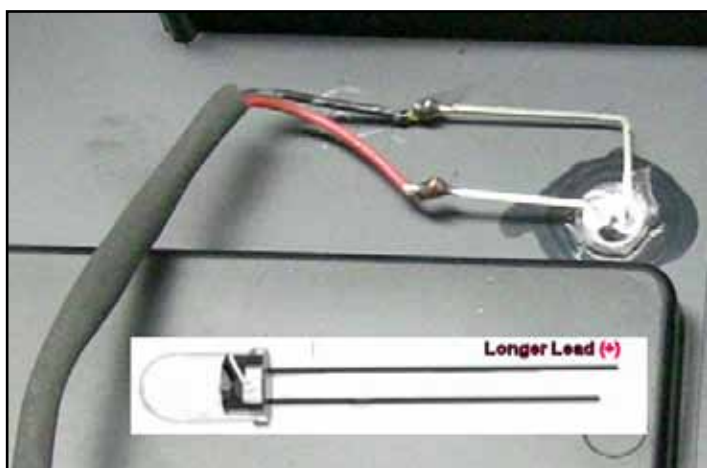

Figure 3: Bend the leads of the LED as shown here.
- 14) Using needle-nosed pliers, bend the LED leads to conform to the orientation shown in the photo shown in Figure 3.